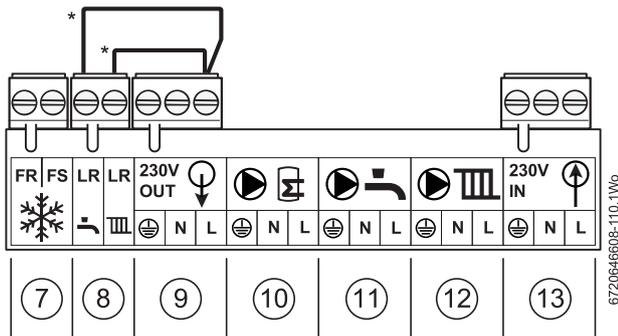

Fig. 44 Mains voltage connectors
Table 23 Key to figure 44
- ▶ When connecting Worcester plug-in or EMS intelligent controls, the links (→ items 8 & 9 in figure 44) must be left in the connection points.